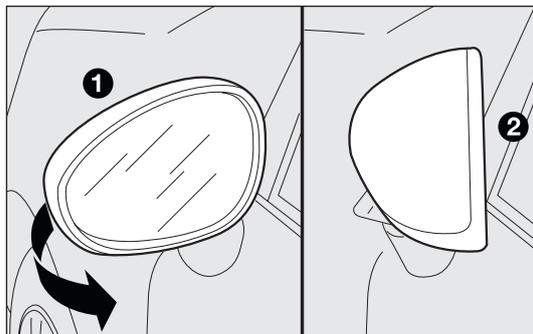

fig. 32
When required (for example when the shape causes difficulty in narrow spaces), it is possible to fold the mirrors from position 1-fig. 32 to position 2.
**When driving, the mirrors should always be in position 1-fig. 32.**